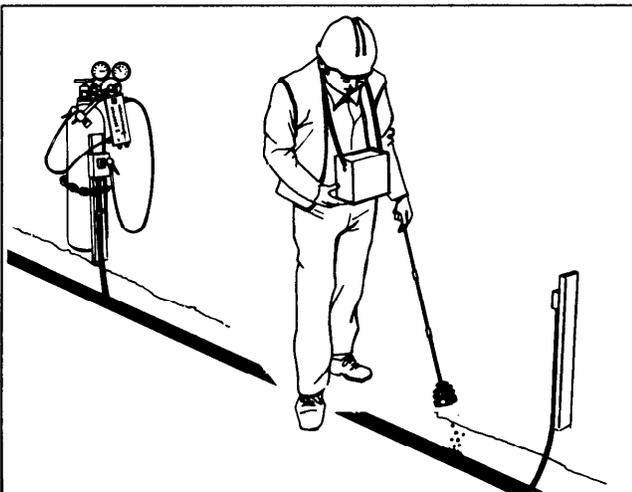

Fig. 5 - Search For Helium
5.22 The first valve beyond the graphed leak location may be used as a bleed valve (remove valve core) during the heliumization process. *NOTE: Be sure to replace the valve core and allow sufficient time for the helium to exit the leak point(s) and rise to the surface before beginning leak location with the Model 1820A (Fig. 5).* A period of one hour or more will be needed to wait from the time the "bleed valve" is capped. Refer to 5.24 for precautions.
5.24 Helium will escape from the cable at leak locations and diffuse through the soil. It can then be detected with the Model 1820A at ground level without boring test holes (see Section 9 and (Fig. 5)).